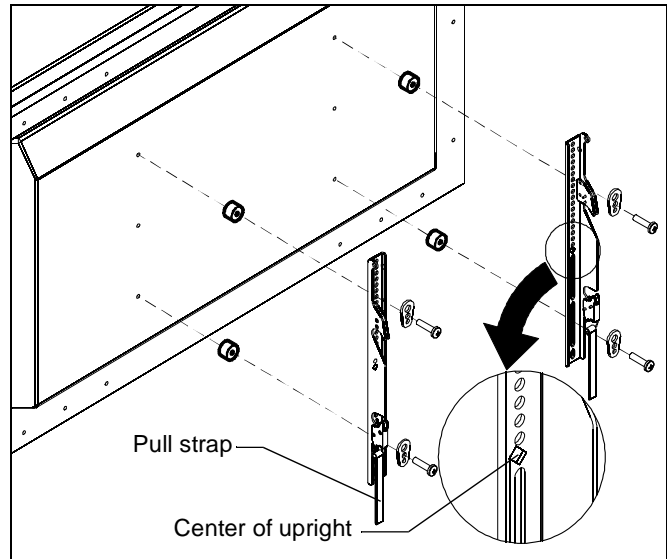

Figure 4
1. Align the center of the upright with center of screen. (See Figure 4)
2. Select correct screws, spacers (if necessary) and universal washers from the hardware bag (A-N) and attach uprights to back of screen. (See Figure 4)